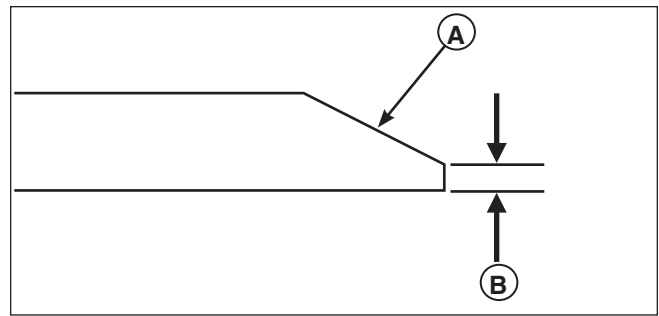

Figure 28. Sharpening the Mower Blade
3. Keep the original bevel (**A**, **Figure 28**) when grinding. **DO NOT** change the mower blade bevel.